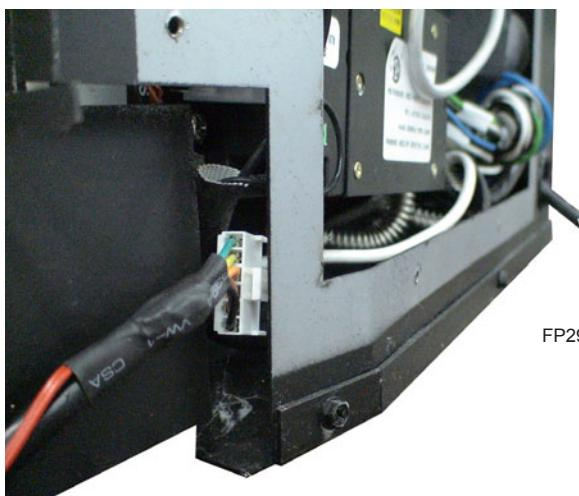

Figure 20
- Take command center cable disconnected in Step 3 and insert pin connector and loose end of cable to the inside of the outer wrapper. Reconnect the six-pin connector to the control board. With the buttons and switch of the command center to the left, insert the command center into the bracket on the lower right corner of insert by sliding grooves on outer housing of command center into the two (2) protrusions on the bracket. *Figure 20*